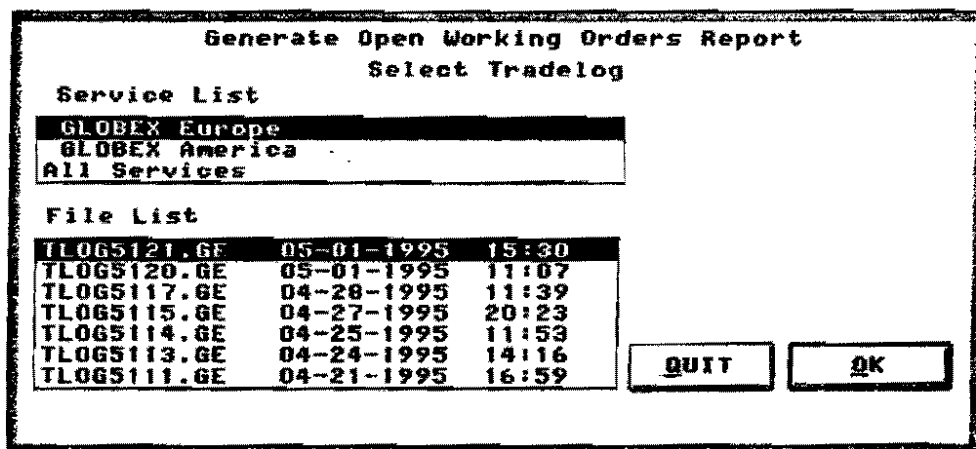

Figure 12.20 Generate Open Working Orders Report Dialog Box
1. Select **Open Working Orders** in the Reports menu to display the dialog box shown in Figure 12.20. The highest priority Service is selected, as is the most recent of up to seven tradelog files displayed in the list. (Tradelog filenames are explained in Section 12.4.2.)